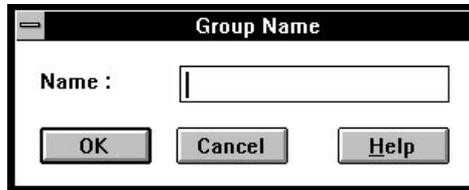

Figure 10-11 Group Name Dialog Box
- To create a new group, click on **New** in the Groups group box. The Group Name box is displayed, as shown in Figure 10-11.